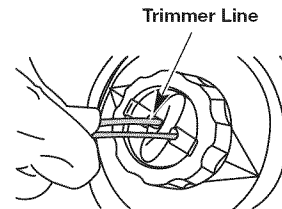

Fig. 17
2. Using 16 ft. (3.2 m) of 0.080 in. (2.03 mm) replacement line push both ends of the line through the holes in the bump knob until they protrude through the eyelets on both sides of the cutting head. Continue pulling the line until approximately 6 ft. (1.5 m) is visible from both sides of the cutting head. (Fig. 17)